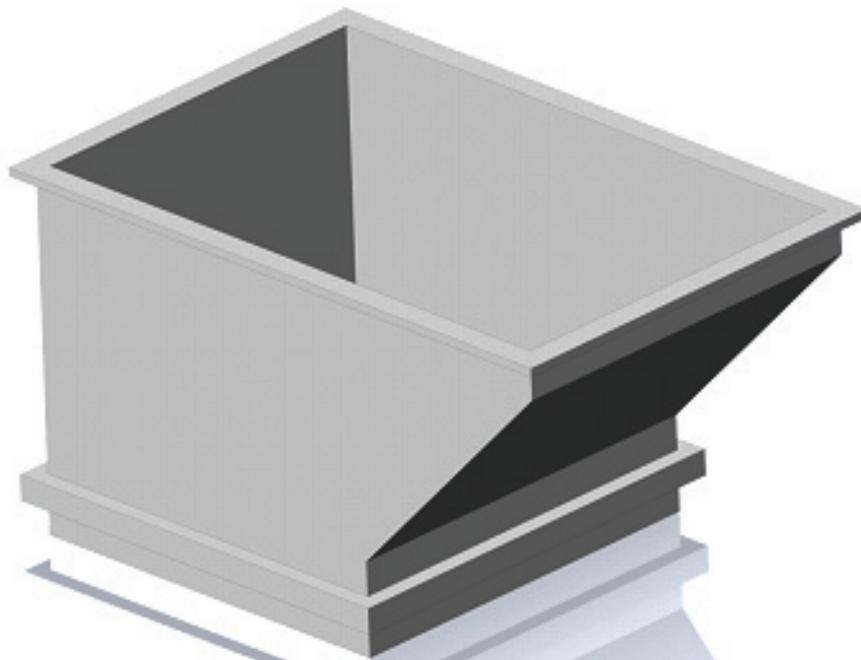

Figure 9-1 Fluidised powder box, 50 Kg
- Fluidised powder box. See Fig. 9-1. For long spray runs a fluidised powder box with a 50kg capacity can be used to feed the powder guns. This has the benefit that the powder box does not have to be refilled or changed as regularly. The assembly (part number 737701) is delivered complete.